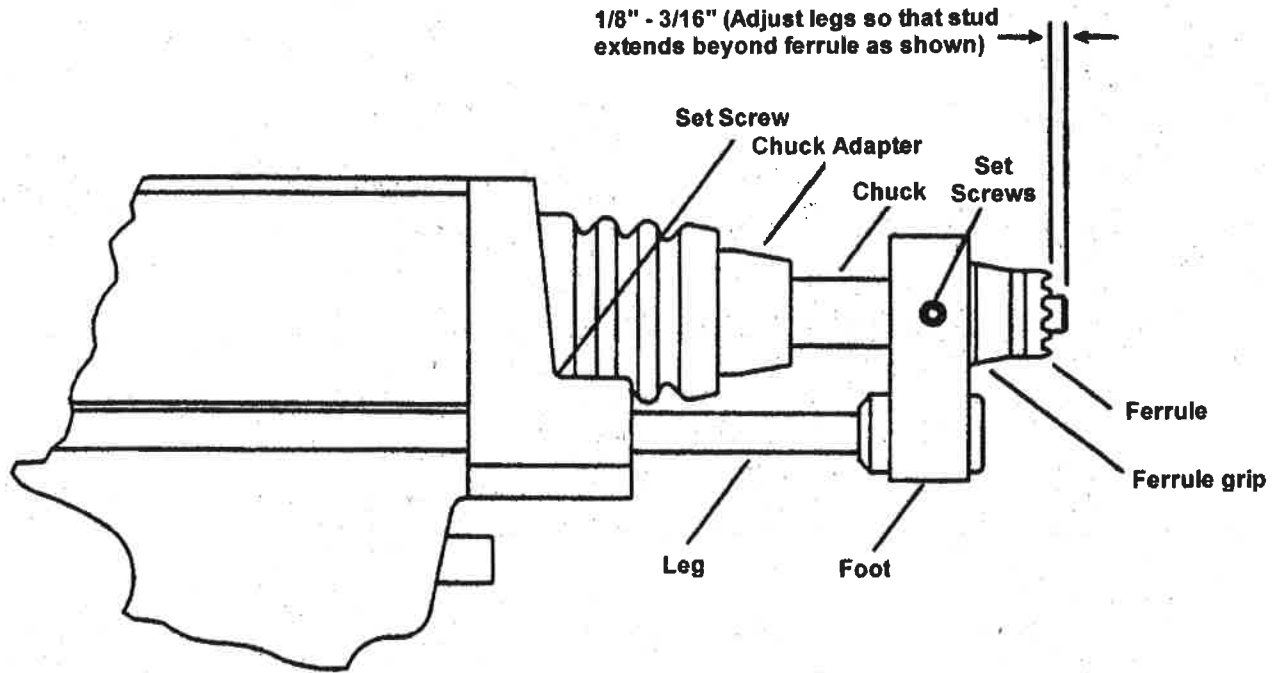

Figure 1
1. Insert chuck in the chuck adaptor. While holding the gun by the chuck adaptor, lightly tap the chuck with a hammer until it is seated and held firmly in the taper of the chuck adaptor (See Figure 1).
2. Insert Ferrule Grip into Foot and secure with set screws provided (See Figure 1).
1. Adjust the leg and foot assembly so that the stud extends from 1/8" to 3/16" beyond the end of the ferrule (See Figure 1).